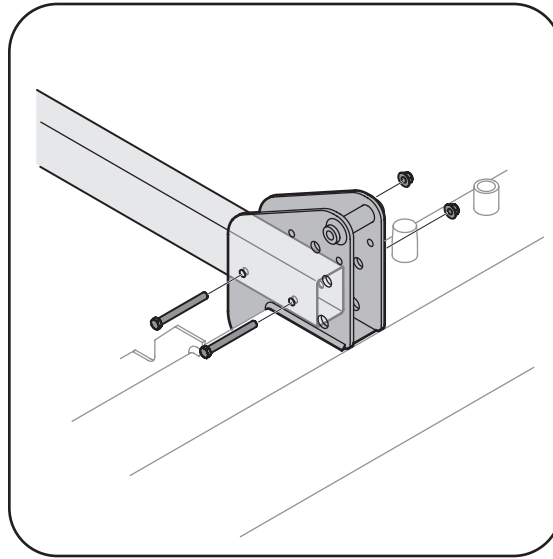

Figure 3-6
2. Place the tongue in position and secure with hardware just removed. See Figure 3-6.